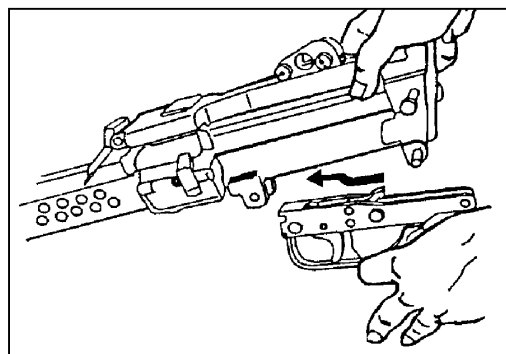

Figure 1-26. Replacement of the trigger mechanism group.
c. **Replacing the Trigger Mechanism Group.** Align the trigger mechanism (Figure 1-26) with the slot on the bottom of the receiver. Hold the trigger mechanism in position to accomplish the next step.